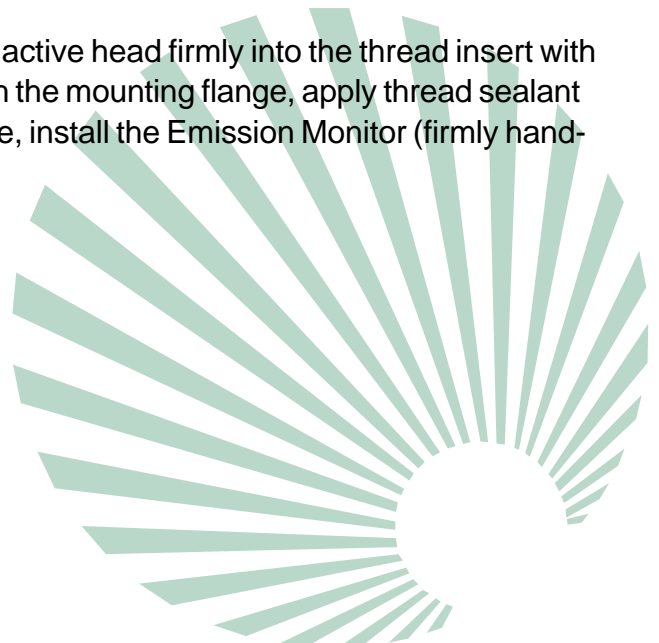
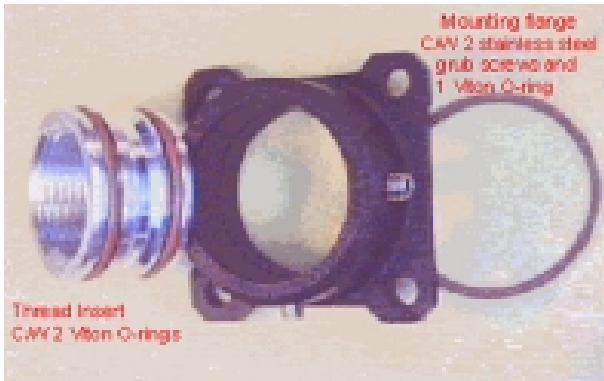

Figure 1
Figure 2
If a quick-release tapping point is required, use either the Bolt-on Mount Kit (P/No. P2-60203, fig 1) or the Weld-on Mount Kit (P/No. P2-60202, fig 2 and fig 4).
- Weld on the Weld-on Mount Kit (P/No. P2-60202, fig 2 and fig 4), or
- Weld on a flange to suit Bolt-on Mount Kit (P/No. P2-60203, fig 1).